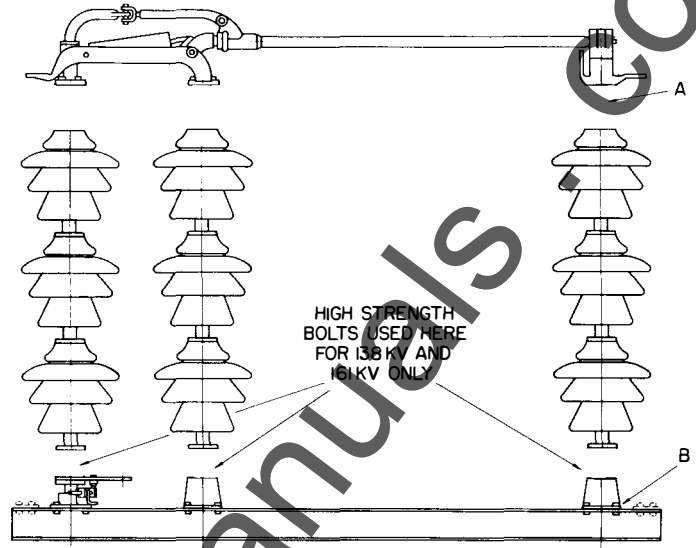
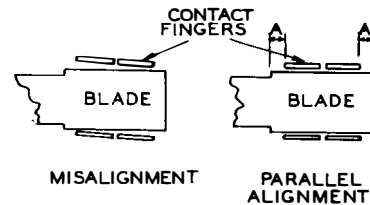

Fig. 9 Current Carrying Parts, Insulators and Base of Switch.
Fig. 11 Top View, Showing Blade Alignment
Where the single pole units are shipped disassembled they are to be assembled in accordance with the single pole drawings. When the switch is completely assembled, shims (provided) may be required under the jaw stack only (B), Fig. 9, for central entry of the blade into the jaw, in both directions. The jaw hold-down bolts at (A), Fig. 9, should be finger tight so that the jaw aligns itself, or can be adjusted to assure that the blade engages both sides of the jaw fingers properly. Jaw hold-down bolts should be tightened down when proper adjustment is made and a parallel line contact is made by the blade on each of the jaw fingers, Fig. 11. Contact coating should not be removed.